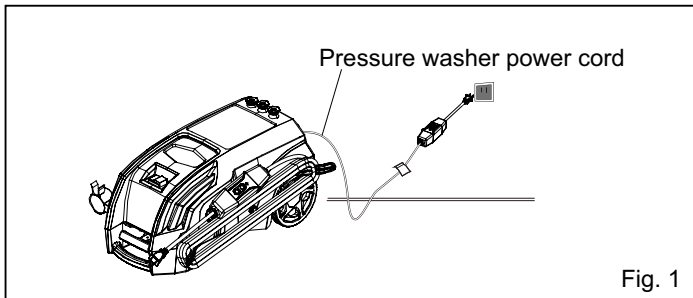

Fig. 1
EXTENSION CORDS (See Figure 1.)
When using a power tool at a considerable distance from a power source, be sure to use an extension cord that has the capacity to handle the current the product will draw. An undersized cord will cause a drop in line voltage, resulting in overheating and loss of power. Use the chart to determine the minimum wire size required in an extension cord. Only round jacketed cords listed by Underwriter's Laboratories (UL) should be used. When working outdoors with a product, use an extension cord that is designed for outside use. This type of cord is designated with "WA" or "W" on the cord's jacket. Before using any extension cord, inspect it for loose or exposed wires and cut or worn insulation. It is possible to tie the extension cord and power cord in a knot to prevent them from becoming disconnected during use. Make the knot as shown in figure 1, then connect the plug end of the power cord into the receptacle end of the extension cord. This method can also be used to tie two extension cords together..